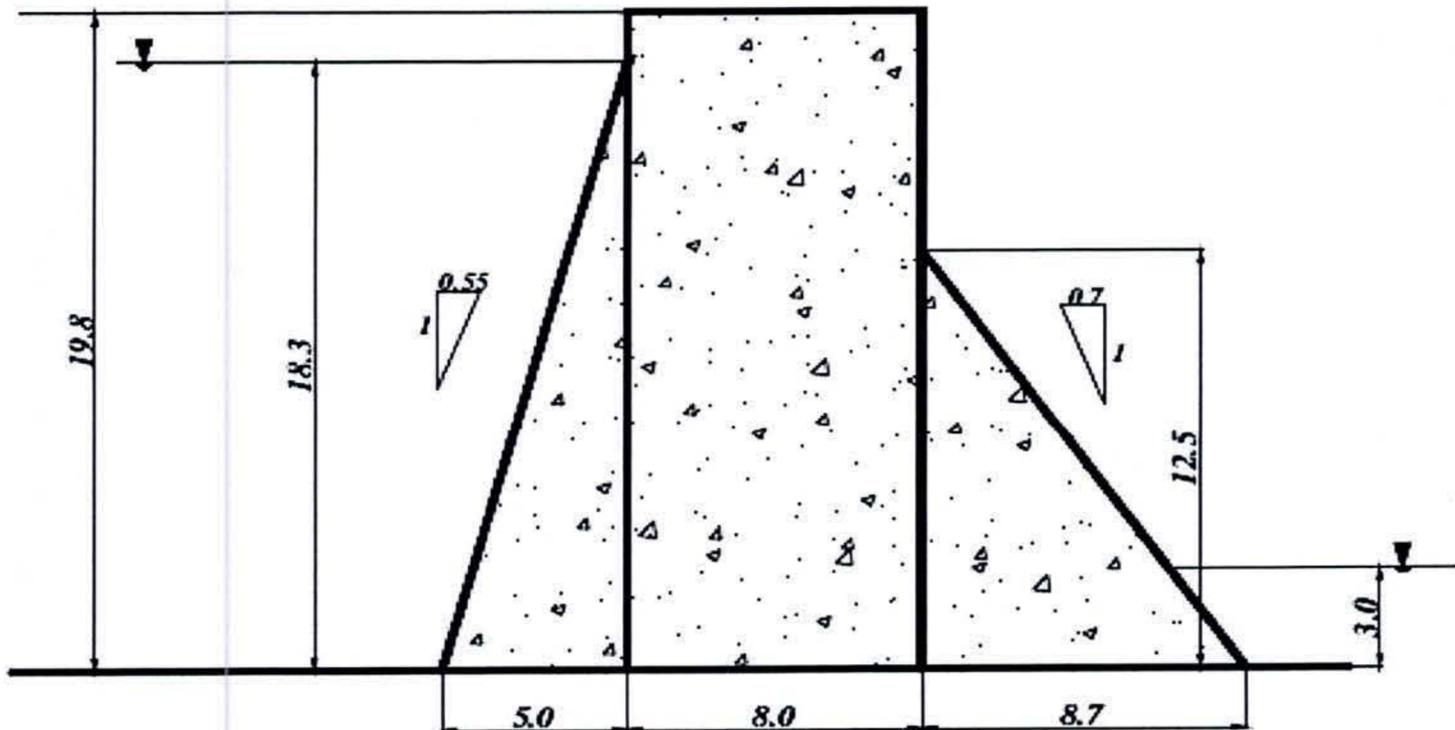

Fig 1
- c. Fig 1 below shows a concrete gravity dam. Given that soil cohesion coefficient $c = 1000\text{kN/m}^2$, unit weight of concrete and water respectively $\gamma_c = 24\text{kN/m}^3$, $\gamma_w = 9.81\text{kN/m}^3$, and the coefficient of internal friction, $\tan \phi = 0.75$.